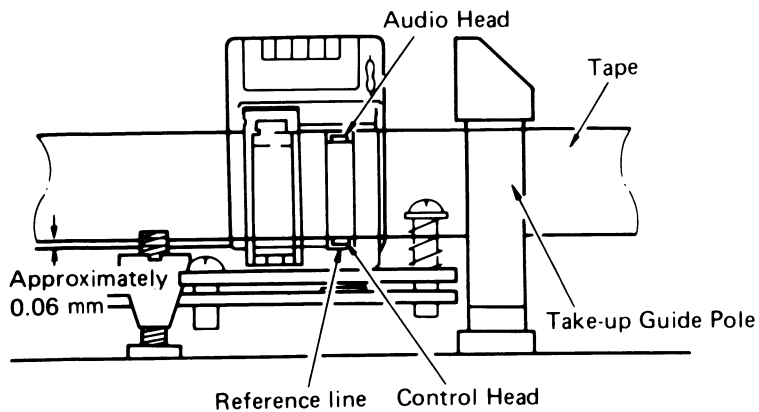

Fig. 7 A/C head adjustment
2. Turn screw (C) (Fig. 7-A) and adjust for smooth transport at the take-up guide pole.